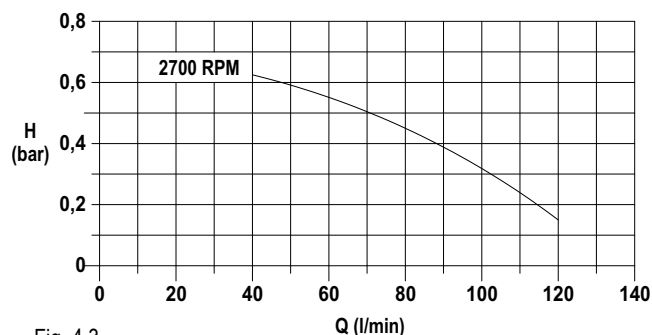

Fig. 4.3
• The heat exchanger must dissipate the heat power indicated in par. 2.2. The Fig. 4.3 shows the characteristic curve "Flow – Head" of the recycle pump.